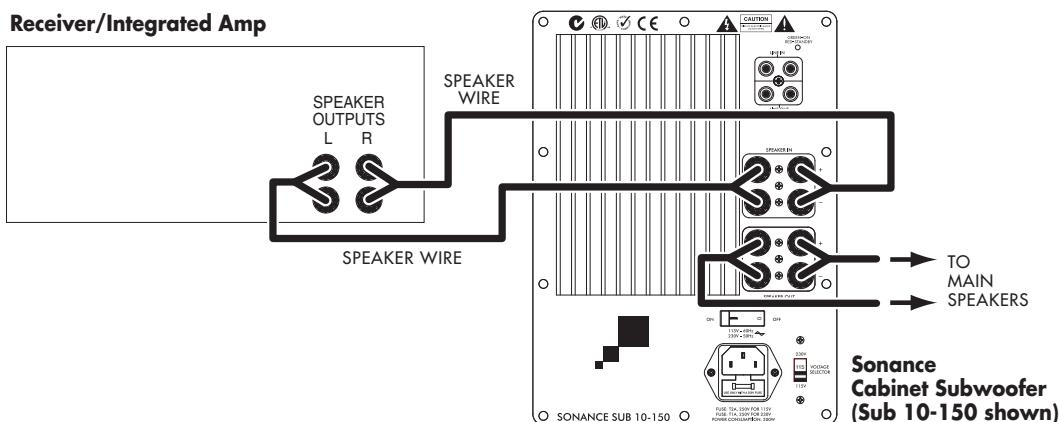

FIGURE 10: CONNECTING TO A RECEIVER OR INTEGRATED AMP WITH NO LINE-LEVEL OUTPUTS
4. Receiver or integrated amplifier with no line-level outputs (see *Figure 10*):